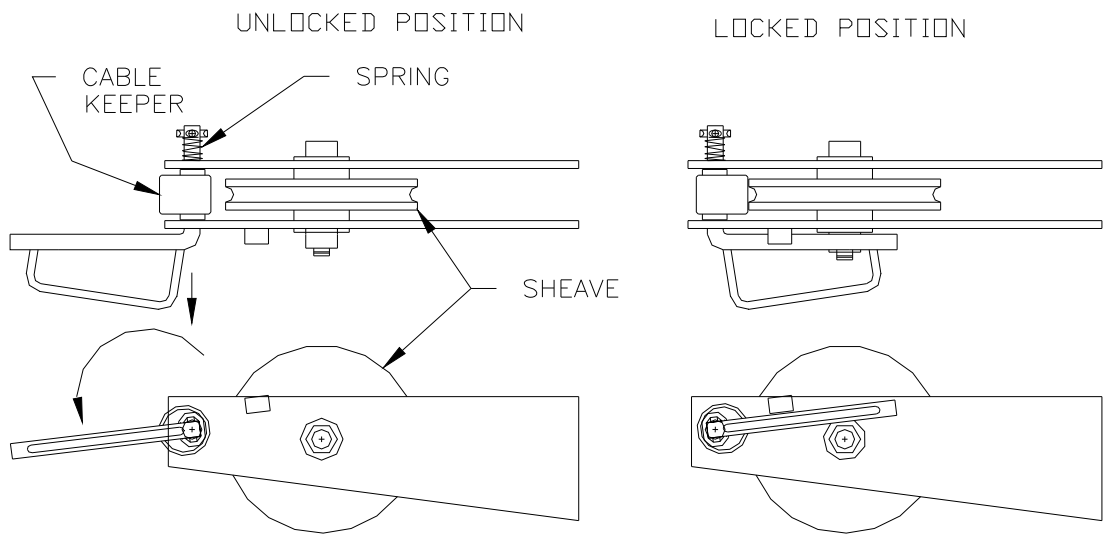

Figure 3-12.
4. Using a step ladder (not an extension ladder) with OSHA compliant fall protection, reeve wire rope through guide on Winch and then through pivot block. At top of Boom, unlock cable keeper by pulling out handle and rotating it counterclockwise as shown in Figure 3-12. Insert wire rope between cable keeper and sheave. Lock cable keeper in position by pulling out handle and rotating it clockwise as shown in Figure 3-12. This handle is spring loaded and has to be pulled out to rotate in either direction.